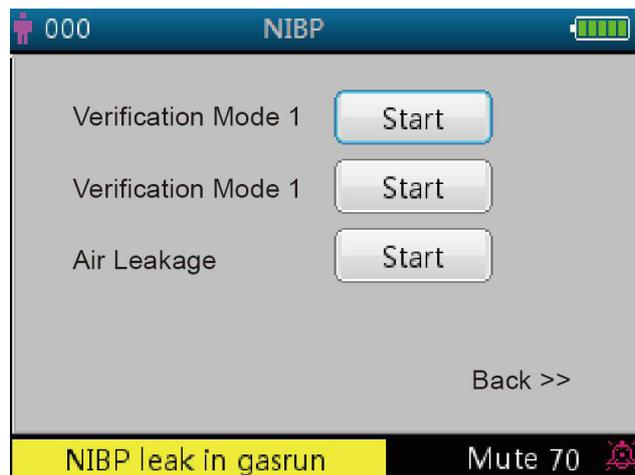

Figure 4.14 NIBP verification setup screen
- **More >>:** page down icon. Move the cursor to the last item (“Lock”), then short press the Down ▼ key to enter into NIBP verification setup screen, as shown in figure 4.14.